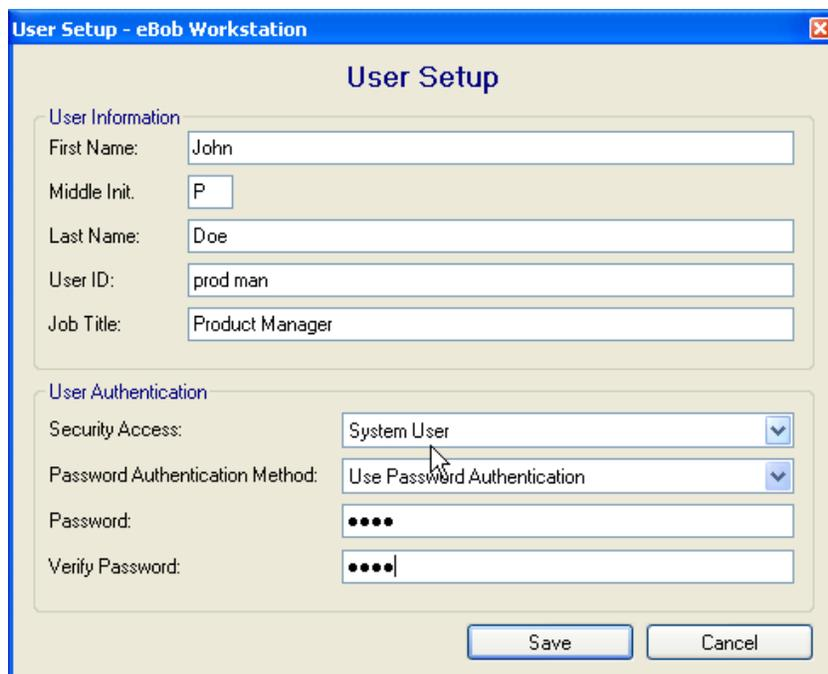

Figure 9
**User Setup** (Figures 9 and 10) There are three user types available.